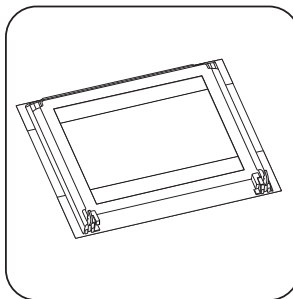

Figure 35: Place door on soft surface
4. Put the door on a soft cloth on a stable surface (Figure 35).